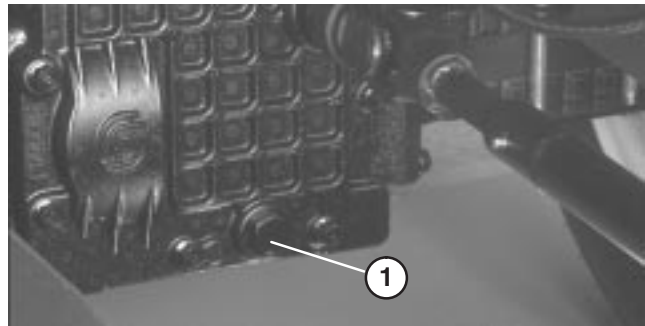

Figure 30
CHANGING HYDRAULIC SYSTEM OIL & FILTER (Fig. 30 – 29)
17. To ease access to axle housing drain plug (Fig. 30), implement may be removed from traction unit.
21. Install drain plug in axle housing (Fig. 30).